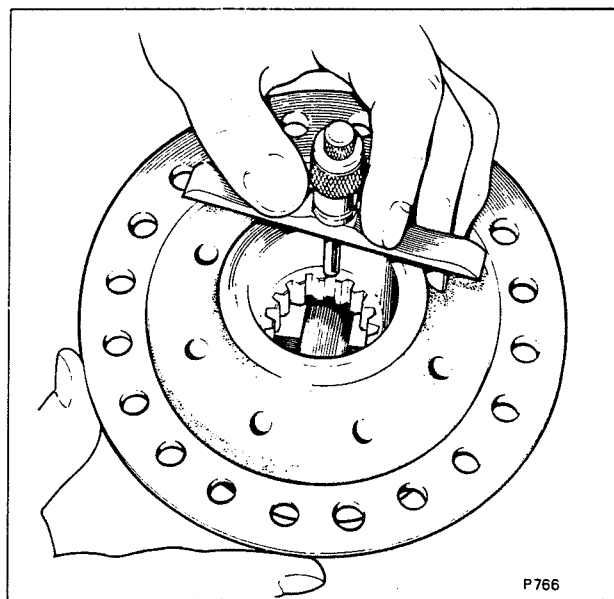

Fig. J5m Splined bevel pinion measurement
5. Push the splined pinion gear into mesh with the bevel gears as far as possible. Measure the distance from the end of the differential housing to the end face of the pinion gear (see Fig. J5m).